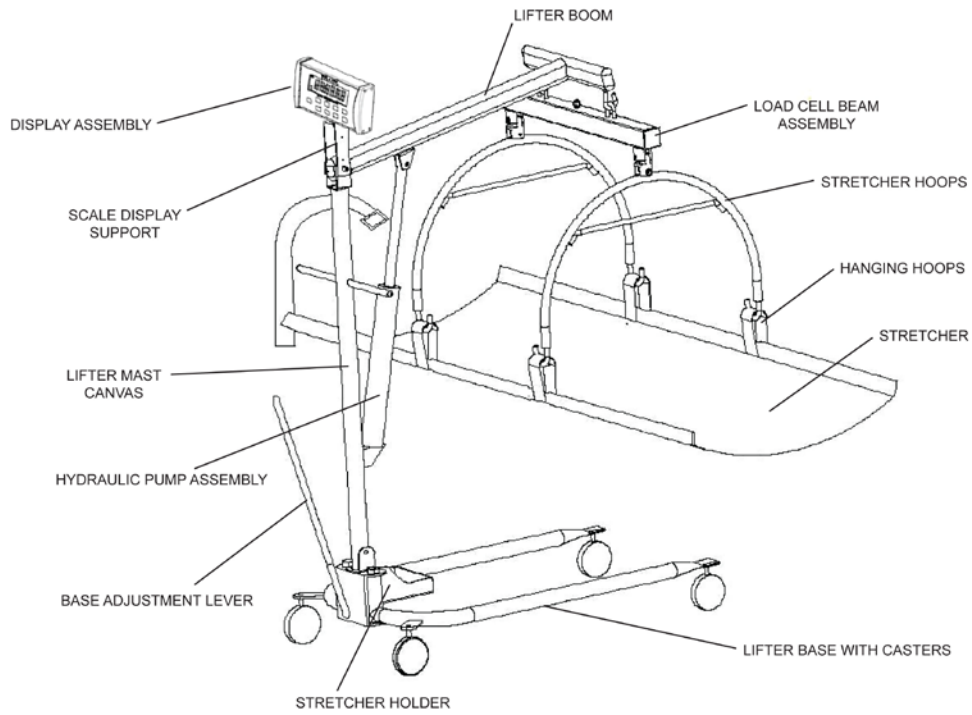

Figure 2
1. Remove the lifter base from the carton and place the lifter base on a flat, level and dry surface (see Figure 2).
4. Insert the bottom of the lifter mast and hydraulic pump assembly into the mast sleeve (through the stretcher holder) on the lifter base (see Figures 2 & 3).
21. Position the display assembly close to the display support. Connect the load cell cable connector to the load cell port on the rear of the display assembly (see Figures 2, 4 & 10).